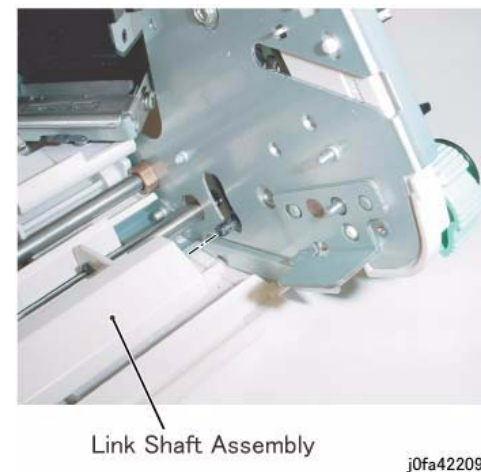

Figure 9 Installing the Paddle Link Assembly (j0fa42209)
- 2. Install the Paddle Link Assembly as shown in the figure. (Figure 9)